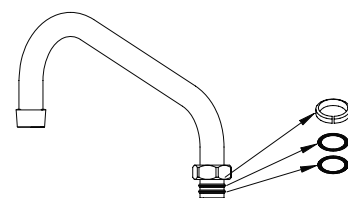

Fig.2 ( O-rings and snap ring locations )
3. Before installing the new spout make sure the o-rings and snap ring are in place on the spout.( see Fig.2)